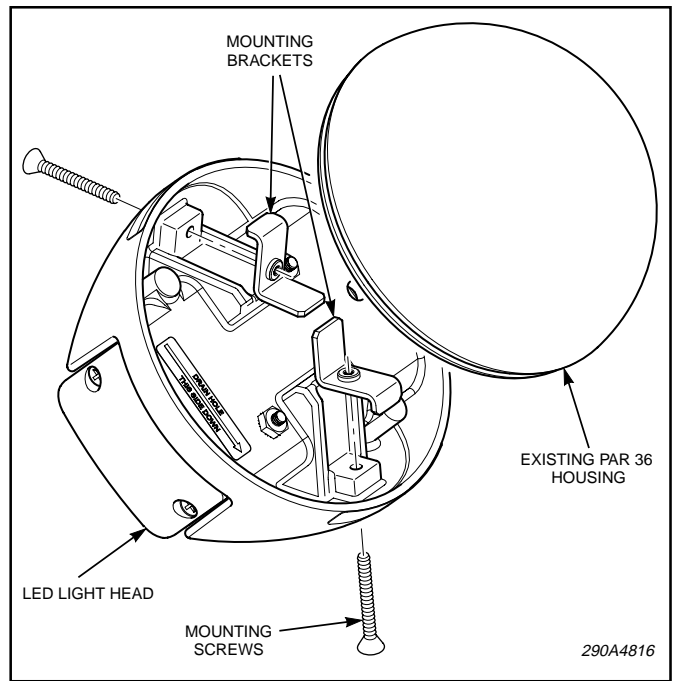

Figure 2.
2. See figure 2. Attach the supplied brackets in the slide area as shown. Do not tighten these screws at this time.